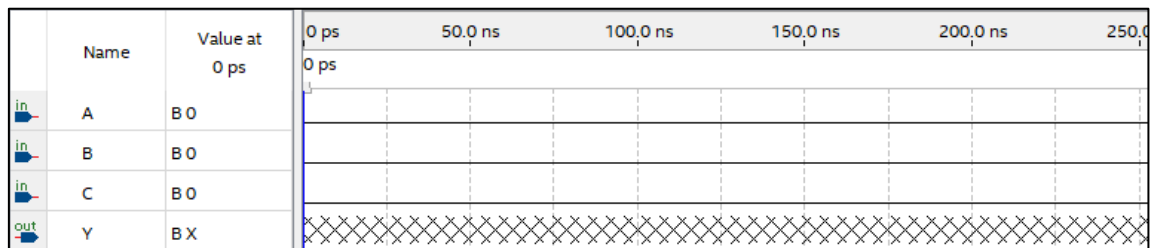

Figure 8: VWF window with 25 ns grid size
- Change the default grid size to 25 ns (or more) by the following. Go to the “Edit” menu and select “Grid Size”. Then change the Time period to 25.0 ns. Your simulation should look like Figure 8.